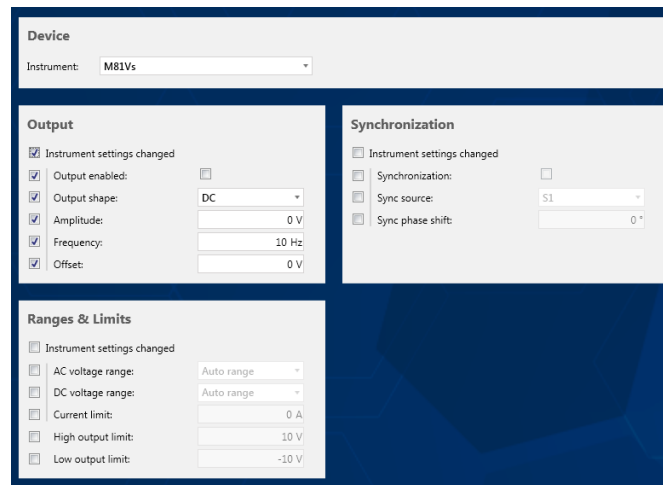

Figure 7. Control for source editing page
- Control for source: Using M81 VS as an example, as shown in Figure 7, click on instrument settings changed when a change should be applied to the voltage source. Select output enabled to turn on output. Adjust amplitude, frequency and offset if needed.